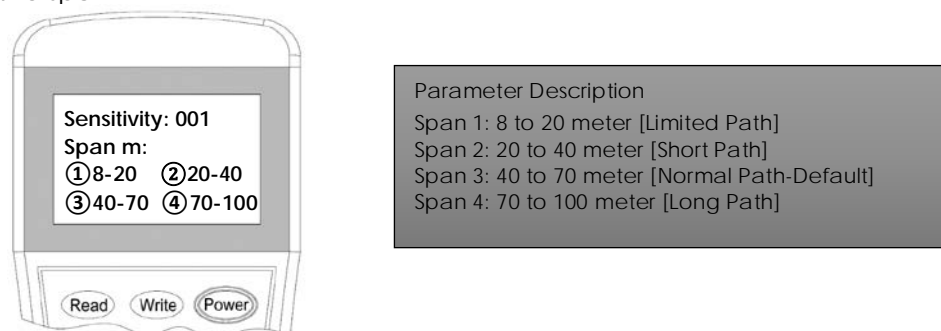

Figure 11
2. Switch on the programmer, then press button "3" then display "Sensitivity and Distance (m)". Then enter then press "0/Page" key to highlight the previous Span setting. Then press value from 1, 2, 3 or 4 correspond to the span value and then press "Write" key. (Figure 11)